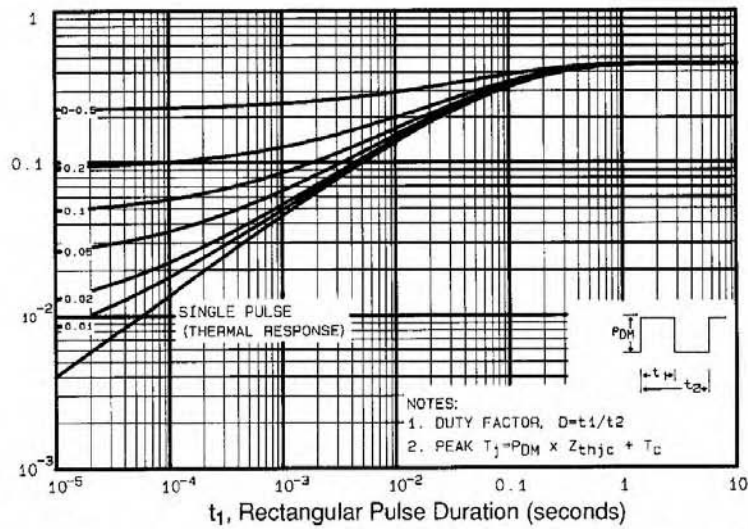

Fig 11. Maximum Effective Transient Thermal Impedance, Junction-to-Case
- ① Repetitive rating; pulse width limited by max. junction temperature (See Figure 11)
- ② $V_{DD}=50V$, starting $T_J=25^\circ\text{C}$, $L=4.0\text{mH}$